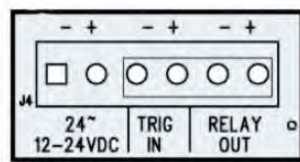

Figure 9
3. If I/O connections are being used, attach them to the appropriate I/O terminals on the center terminal block of the back box (Figure 9).